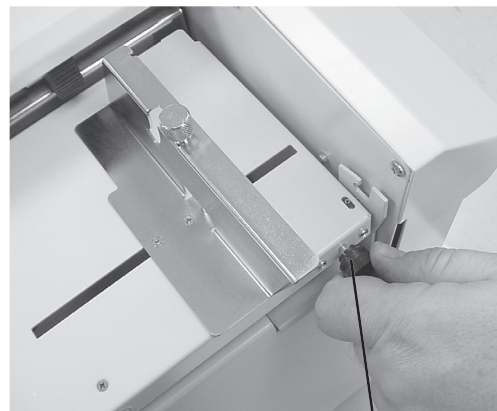

Fig. 7
10. If the fold is skewed, lower the paper table extension and turn the skew adjustment knob left or right to make corrections (Fig 7).